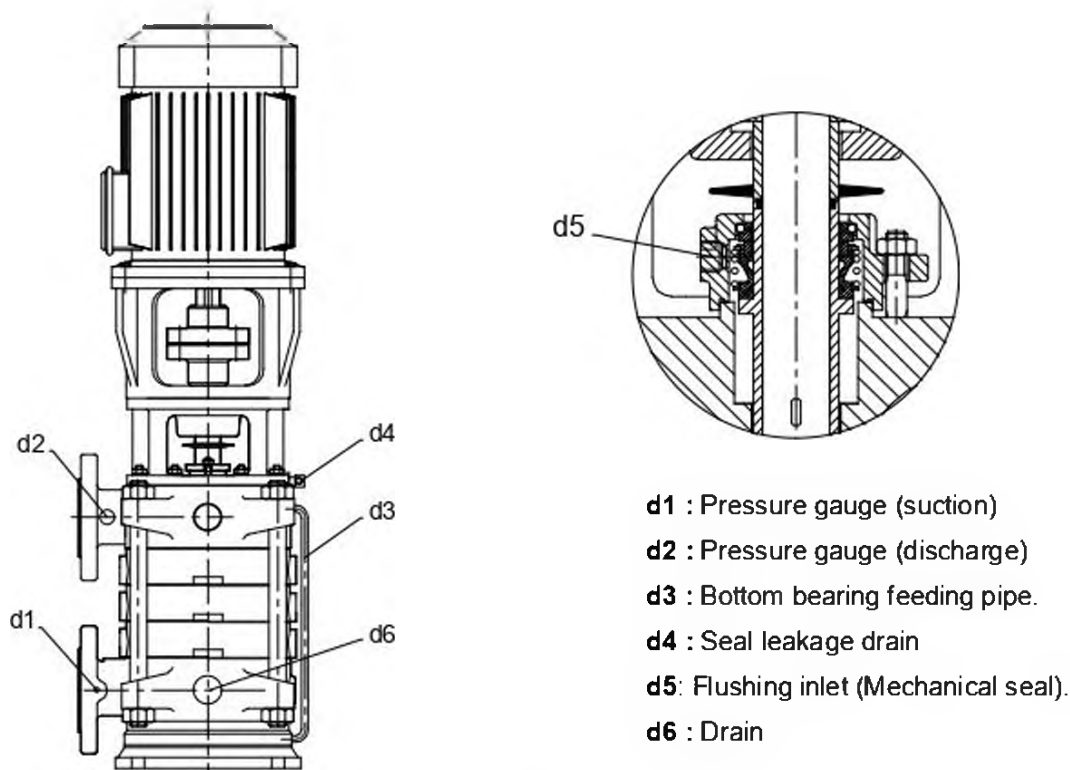

Fig. 6
- Every pump is fitted with connections on the pump casing to drain the pump and on the bearing bracket to evacuate the seal leakage from the stuffing box (Fig. 6). If required, the pump drain and seal leakage can be piped to a suitable reservoir. The pump draining piping must be fitted with an isolating valve and both must be suitable for the maximum operating pressure of the pump.
- Auxiliary piping must be connected only to the designated connections located on the pump (See Fig. 6).